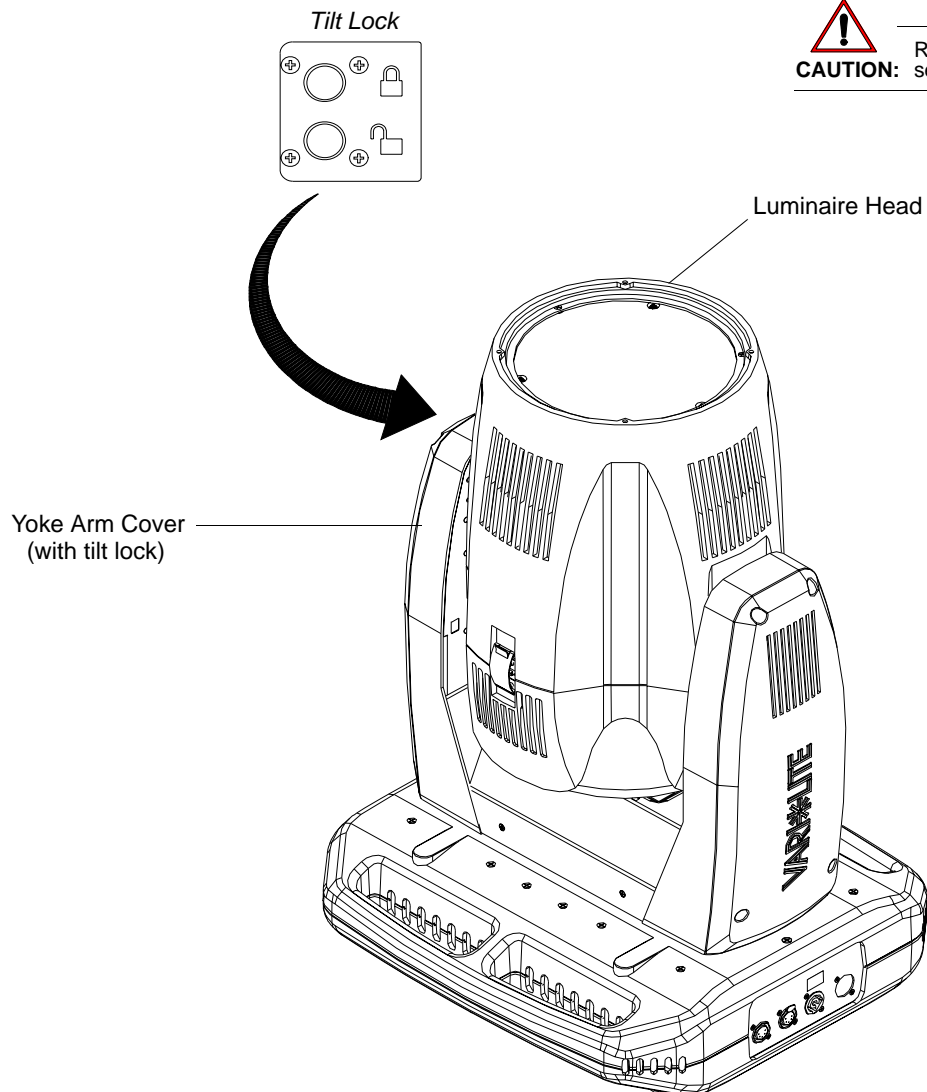

Figure 2-9: VLX Wash Luminaire
- Step 2. At tilt-lock side yoke arm cover, remove yoke arm cover by loosening four 1/4-turn Dzus fasteners. Refer to Figure 2-9 for details.